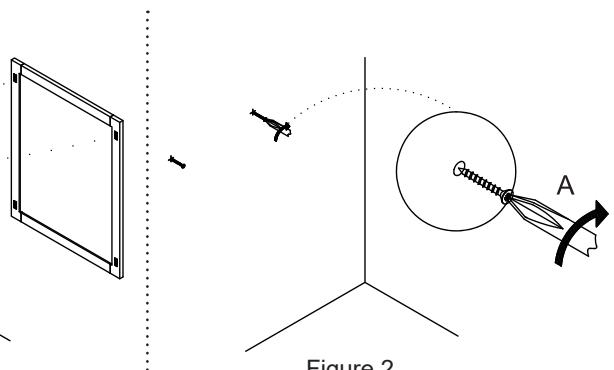

Figure 2
**2: If using wall anchors:** using a drill, create a hole in the wall for each wall anchor over the marked locations. Insert (x 2) wall anchors (B). Insert (x 1) 2" screw into each wall anchor. Figure 2. **If installing directly into wall studs:** using a drill, insert (x 1) 2" screw into each marked location. Figure 2.